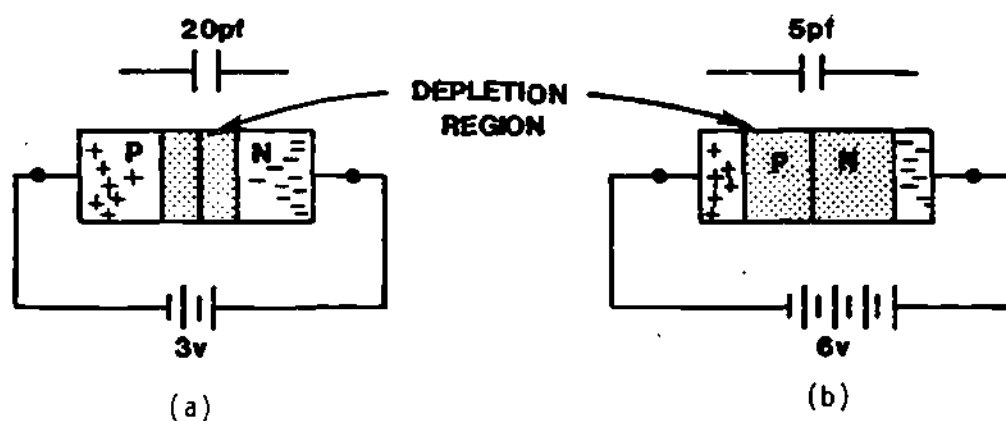

Figure 21
- (23.) In a varactor diode, the ratio of capacitance change to reverse bias voltage change may be as high as 10 to 1. An example of capacitance change to voltage change ratios is shown in Figure 21.
In Figure 21(a), the reverse bias is 3 volts which produces a capacitance of 20 pF. If the reverse bias is increased to 6 volts, the change in reverse bias is 3 volts. In Figure 21(b), you can see that at 6 volts the capacitance has dropped to 5 pF, which is a change of 15 pF. Therefore, this example shows a 15 pF capacitance change to a 3 volt reverse bias change. Simple division shows that the change ratio is 15 divided by 3, or 5 to 1. You should notice that the increase in reverse bias voltage causes a decrease in varactor capacitance. If the reverse bias voltage were decreased, the capacitance would increase. Also notice that the value of varactor capacitance is very small (picofarad, 10-12 range).